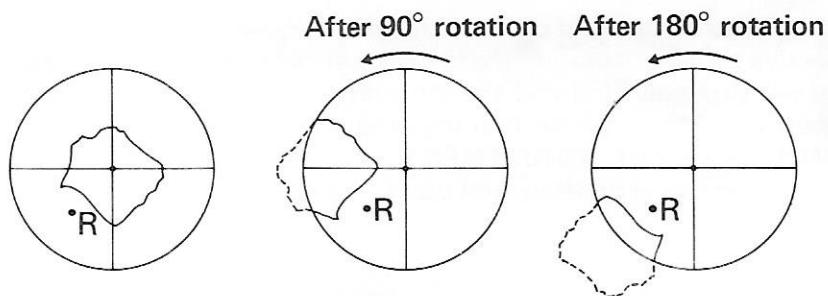

Figure 6 R = Rotation centre
- (b) Rotate the stage in either direction (in Fig. 6 on p.11, we rotated the field of view to the left). Almost certainly, the centre of the circle described by the field of view upon rotation will not coincide with the crosswire intersection.
- (c) Find where the centre of the rotation circle is in relation to the crosswire intersection. In our example (Fig. 6 on p.11) it is southwest of it. Clearly, we need to move the rotation centre to the northeast.